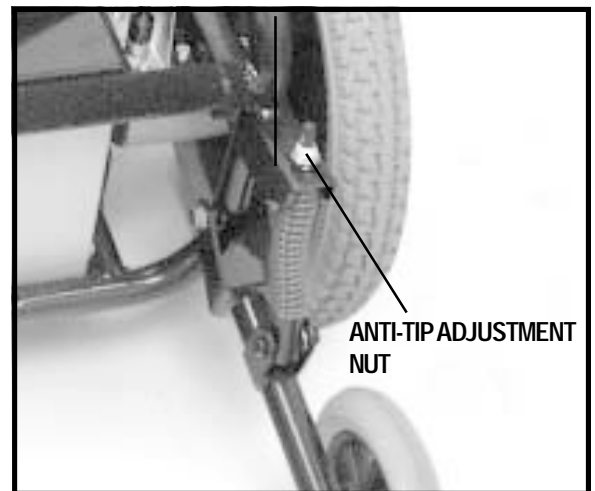

Figure 19. Anti-tip Adjustment
2. Adjust the anti-tip adjustment nut so that the anti-tip wheel is 0.5-1 inch off of the ground. Turn the nut clockwise to raise the anti-tip wheel and counterclockwise to lower the anti-tip wheel. See figure 19.